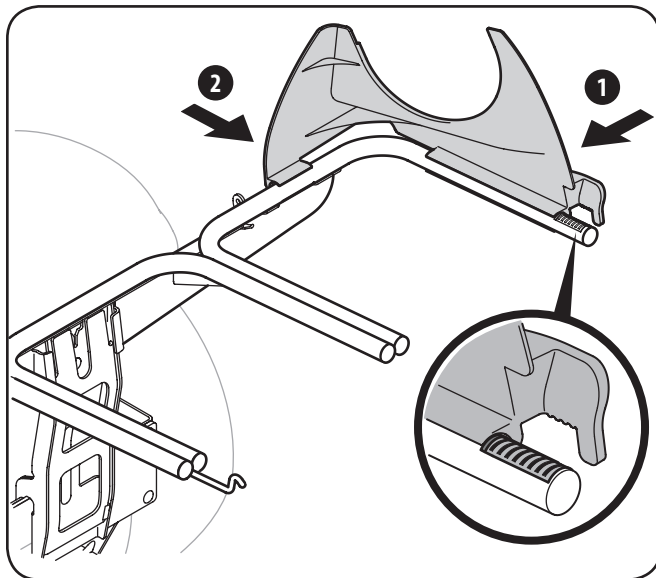

Figure 4-7
1. Snap the plastic upper chute support in place by first clipping the side portion onto the bagger support rail (1) with the edge of the snap feature **aligned with the red line**, as seen in the inset of Figure 4-7.
2. Snap the front side of the chute support to the rail (2), as shown in Figure 4-7.